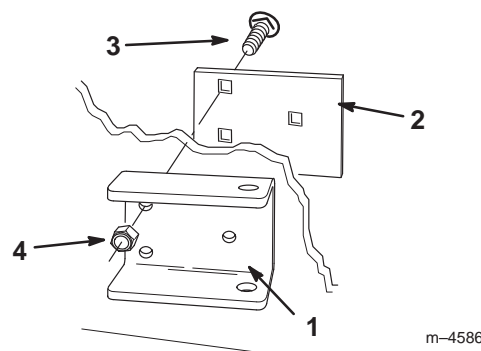

Figure 3
6. Secure the side bar bracket to the side of the traction unit using the back-plate, three carriage bolts, and three nuts (Fig. 3).